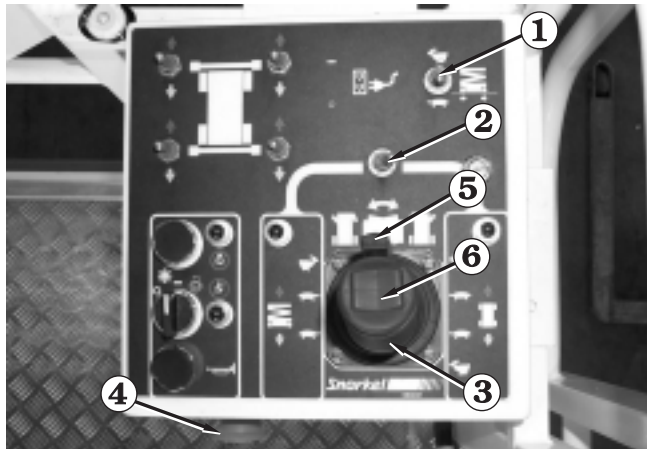

Figure 8.20
2. Set the **Speed** switch ① to turtle (slow) (see Figure 8.20) if you are going to be driving close to other objects or need to move the SR very slowly for other reasons.
3. Set the **Lift/Drive Selector** switch ② to drive (right) (see Figure 8.20).
4. Squeeze and hold the **Safety Control** ⑤ against the **Joystick Controller** ③ (see Figure 8.20).
5. Push the **Joystick Controller** ③ (see Figure 8.20) slowly forward or pull it slowly backward, depending on which way you want to go. The further you move the joystick the faster the SR moves.
6. To make a right or left turn, press and hold the **Steering** rocker-switch ⑥ on top of the **Joystick Controller** ③ (see Figure 8.20).